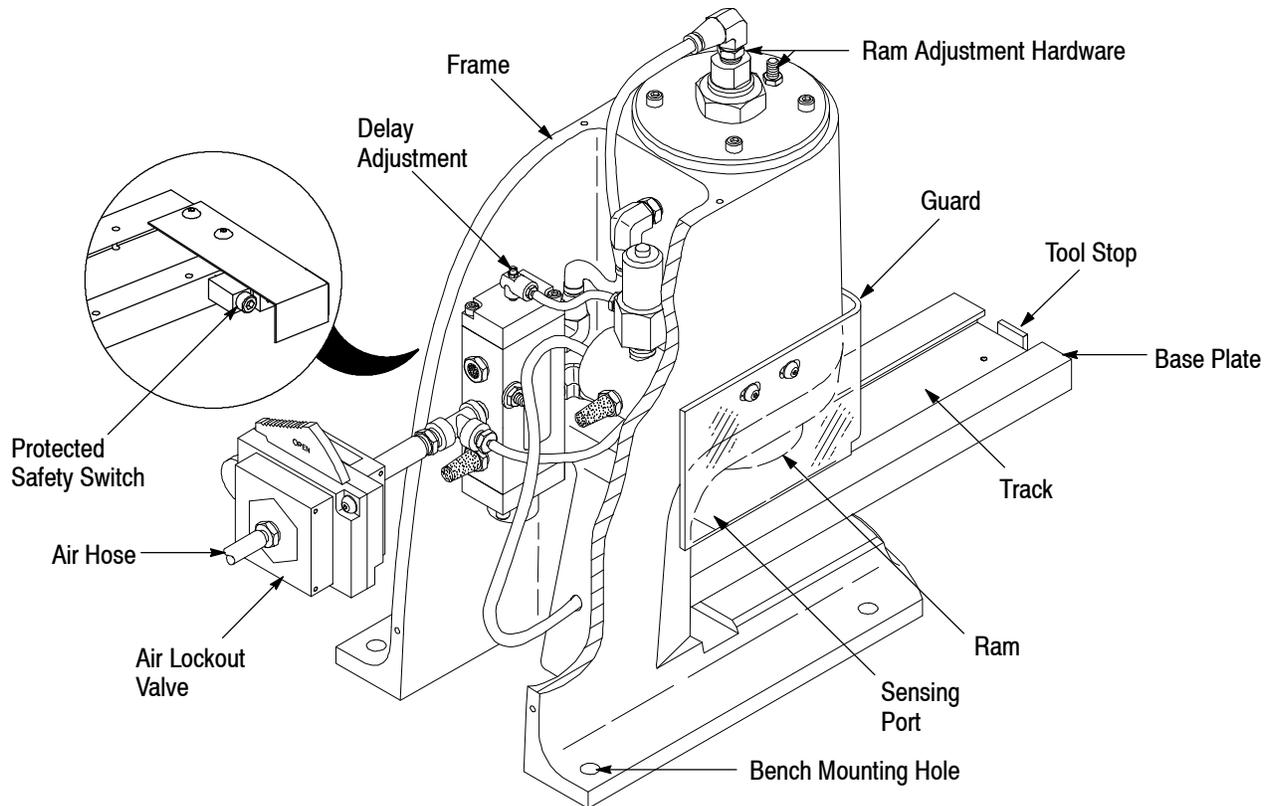

Figure 1
## 2. DESCRIPTION (Figure 1)
**5. INSTALLING TOOLING ASSEMBLY** (Figure 1)